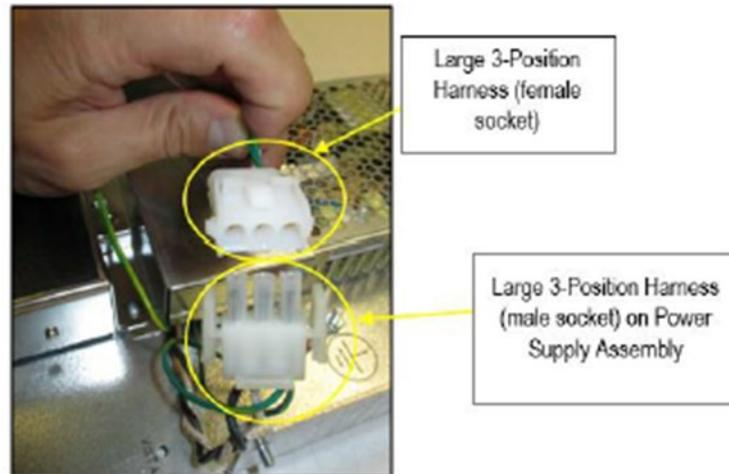

Figure 69
- 17) Remove the Large 3-Position Harness (female socket) of the A/C Wiring Assembly from the Large 3-Position Harness (male socket) pigtail that is present on the Non Invenco Link Power Supply Assembly. See Figure 69.